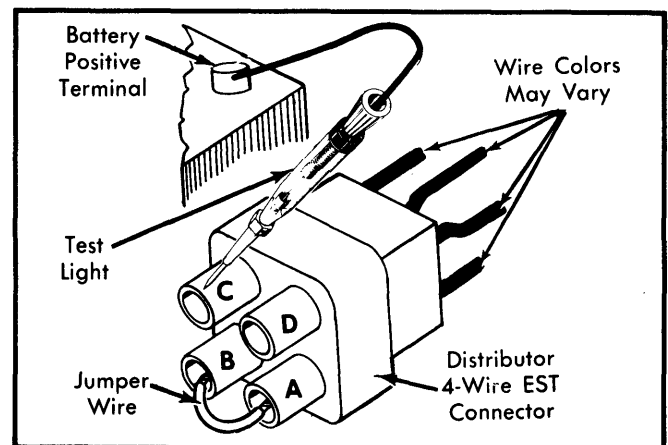

Fig. 8 Test Light Hookup for Checking EST Emission System
5) Stop engine and connect a jumper wire from terminal "A" to terminal "B" of distributor side of EST connector. See Fig. 8. Start engine, ground "diagnostic test terminal", and connect test light from battery positive terminal to terminal "C" of 4-wire EST connector at distributor.